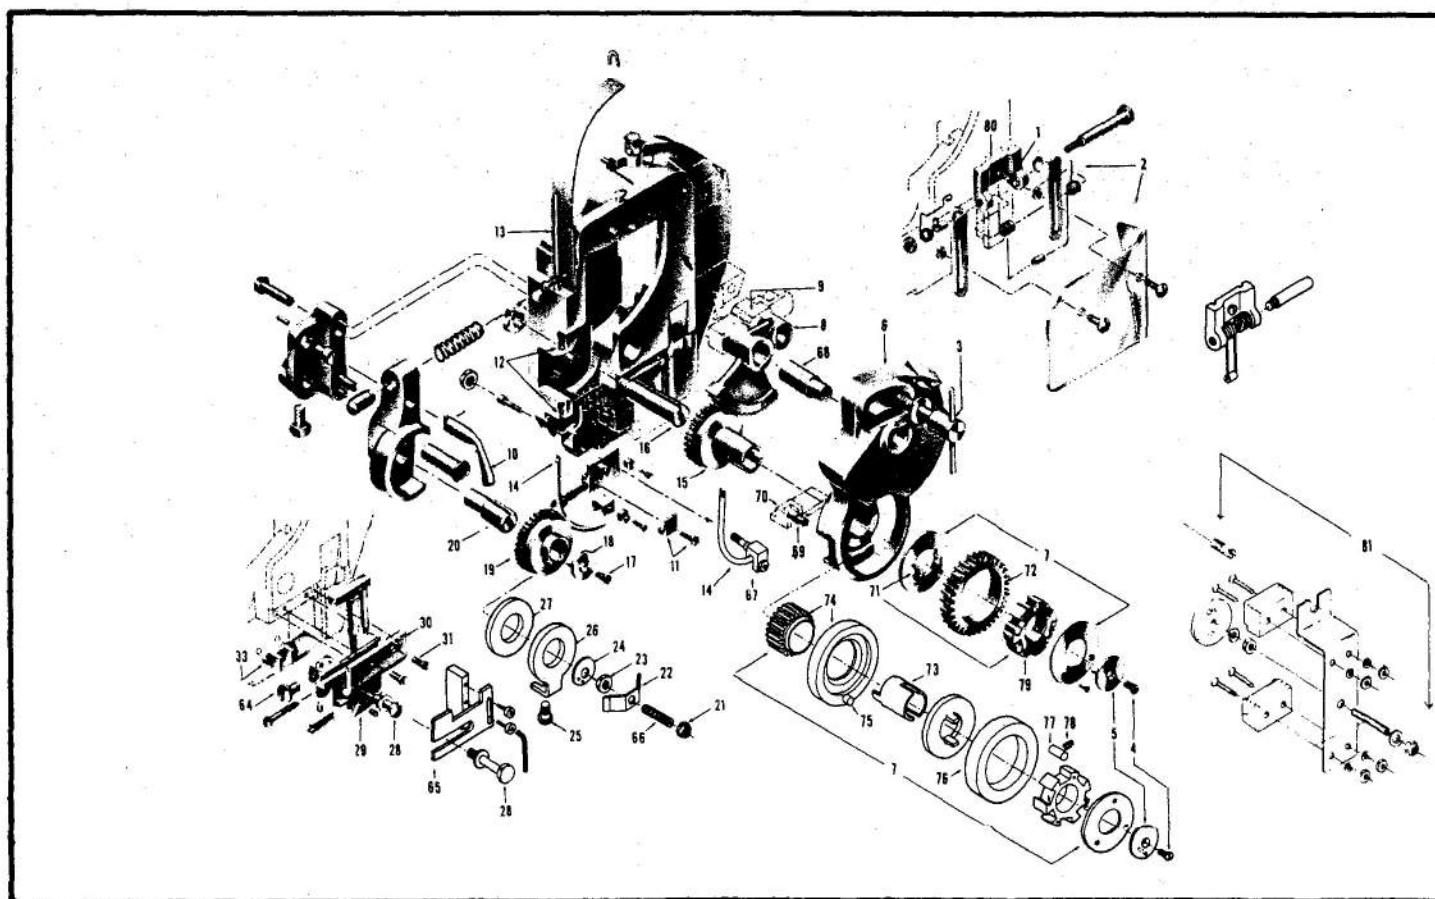

Figure 21—Disassembling and Reassembling Stitcher Head
1. HOW TO DISASSEMBLE AND REASSEMBLE STITCHER HEAD (See Fig. 21)
Figure 21 illustrates the disassembling and re-assembling procedures only and is not intended to identify parts for purposes of ordering parts. For ordering parts see Fig. 22 and 23, and the accompanying Parts List.
a. HOW TO REMOVE WIRE FEED, WIRE CUTTING, AND GRIPPER ASSEMBLIES (See Fig. 21).
b. HOW TO REMOVE WIRE FORMING AND DRIVING ASSEMBLIES (See Fig. 21).
c. HOW TO REINSTALL WIRE FORMING AND DRIVING ASSEMBLIES (See Fig. 21).
d. HOW TO REINSTALL WIRE FEED, WIRE CUTTING, AND GRIPPER ASSEMBLIES (See Fig. 21).